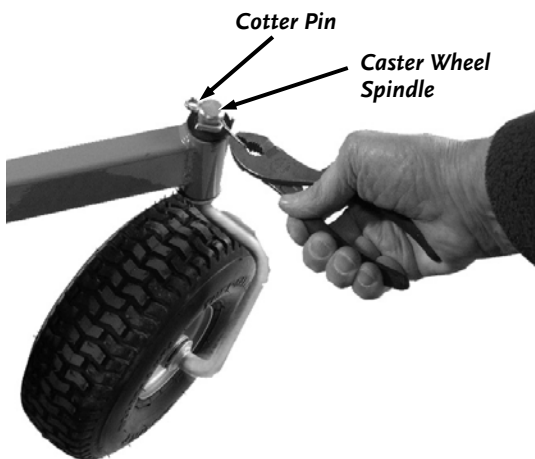

Figure 4
2. Insert the Caster Wheel Spindle into the Bushings from the bottom (Figure 4). Push the Cotter Pin into the Hole in the Spindle as far as it will go.